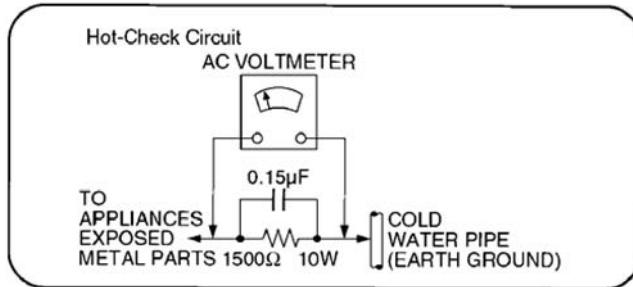

Figure 1
4.1.2. Leakage Current Hot Check (See Figure 1)
2. Connect a $1.5k\Omega$, 10 watts resistor, in parallel with a $0.15\mu F$ capacitor, between each exposed metallic part on the set and a good earth ground such as a water pipe, as shown in Figure 1.